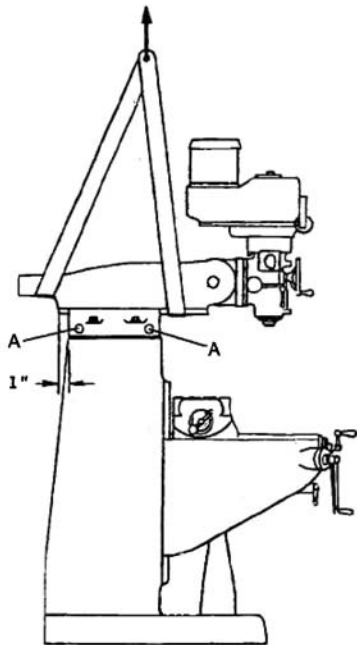

Figure 4: sling location
**Check the tightness of the lock handles on the ram (A, Figure 4) to be certain the ram is tightly locked.**
An alternative method for lifting the mill is with a sling. Follow diagram in Figure 4 for proper position of sling under ram. Note position of ram and that table has been moved against column. Tighten ram locking bolts (A, Figure 4) before lifting.